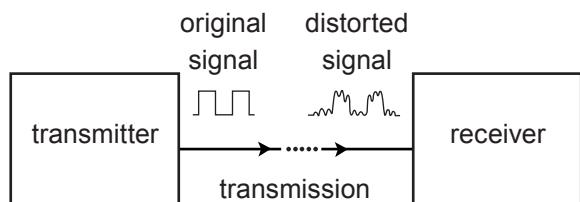

Figure 10.11 Digital signal distorted by noise during transmission
1. Digital systems are less affected by electrical interference. Figure 10.11 shows a digital signal that has been distorted by electrical interference during transmission. Since there is a fairly large difference (5 V) between the two voltage levels, the receiver is still able to tell logic 0 apart from logic 1 as long as the signal is not too badly distorted.